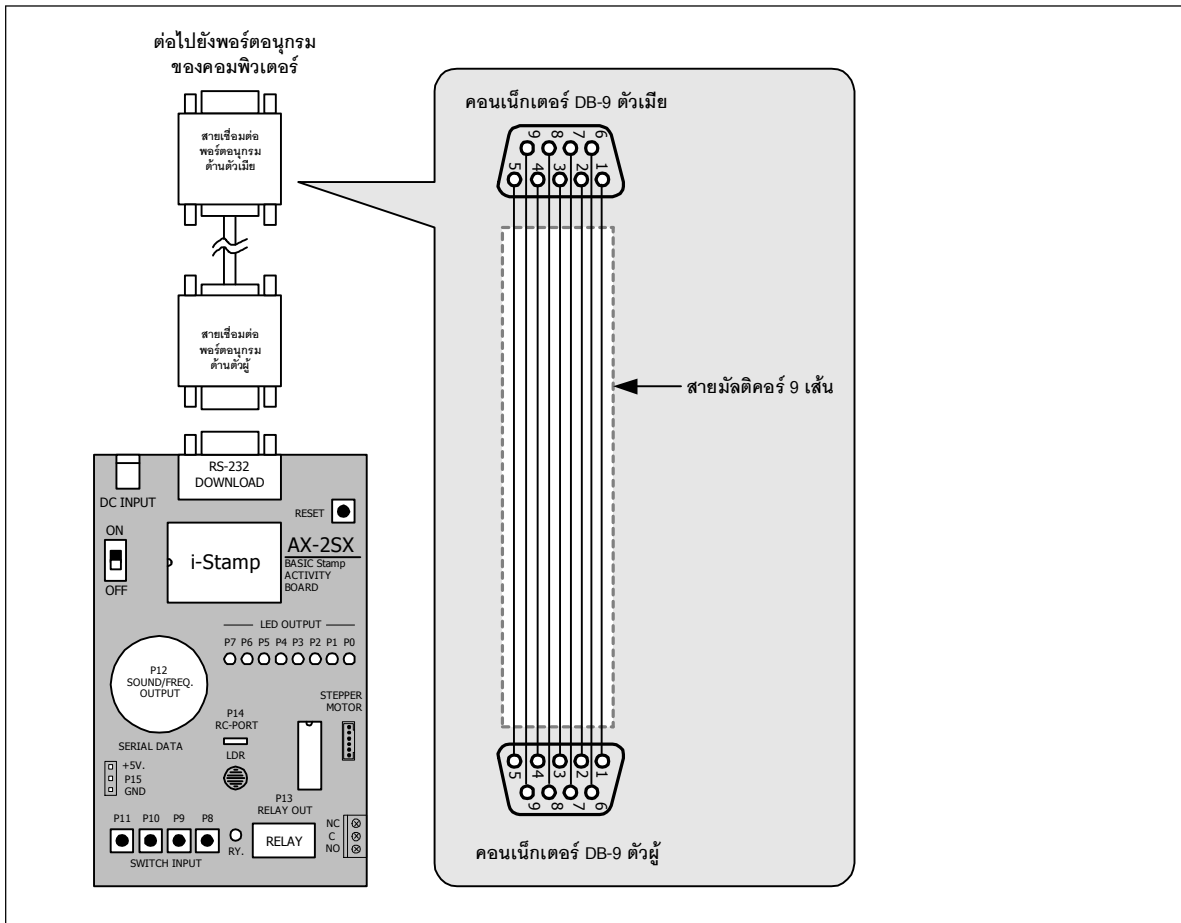

Figure A1-2 Interfacing of AX-2SX Activity board with computer's serial port
- 1.2 Connect serial port cable between PC's serial port and AX-2SX board Following the figure A1-2. If use USB to Serial port converter, must connect the converter with USB port and connect the serial port cable between the converter and AX-2SX board instead.